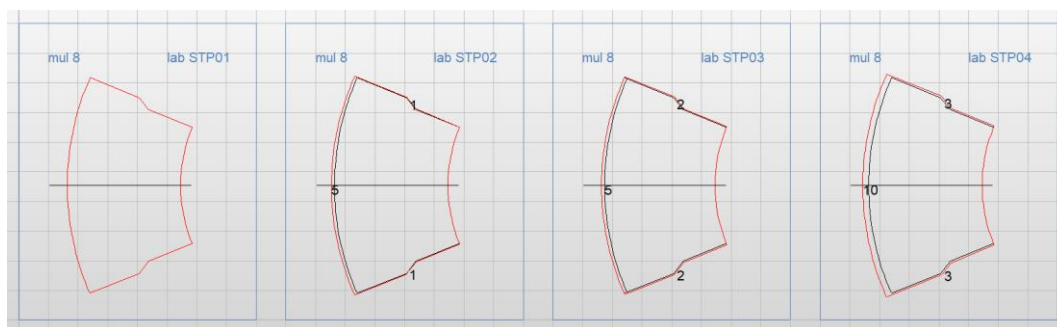

Figure 83
8. **JOIN** : Perfect, we have just finished our offset activities and need to reconnect the outer geometries again to get closed cuts. Therefore use  (Join) one more time. Please check step 11.e on page 34 again if you need more detailed information. Whether the autoconnect setting is enabled or disabled no longer matters, because NestKing automatically merges them to a closed geometry in the scope of the prenesting process. Figure 83 shows the result after joining all segments.